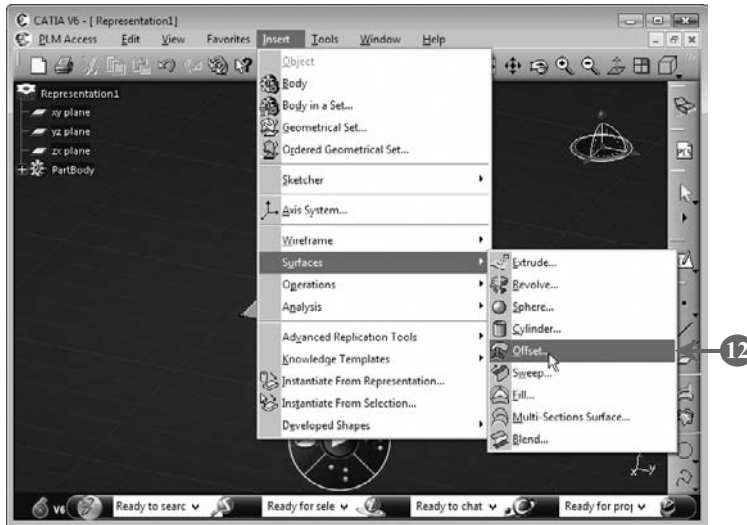

FIGURE 5.60
12. Select **Insert>Surfaces>Offset** from the menu bar to create the desired offset surface, as shown in **Figure 5.60**: